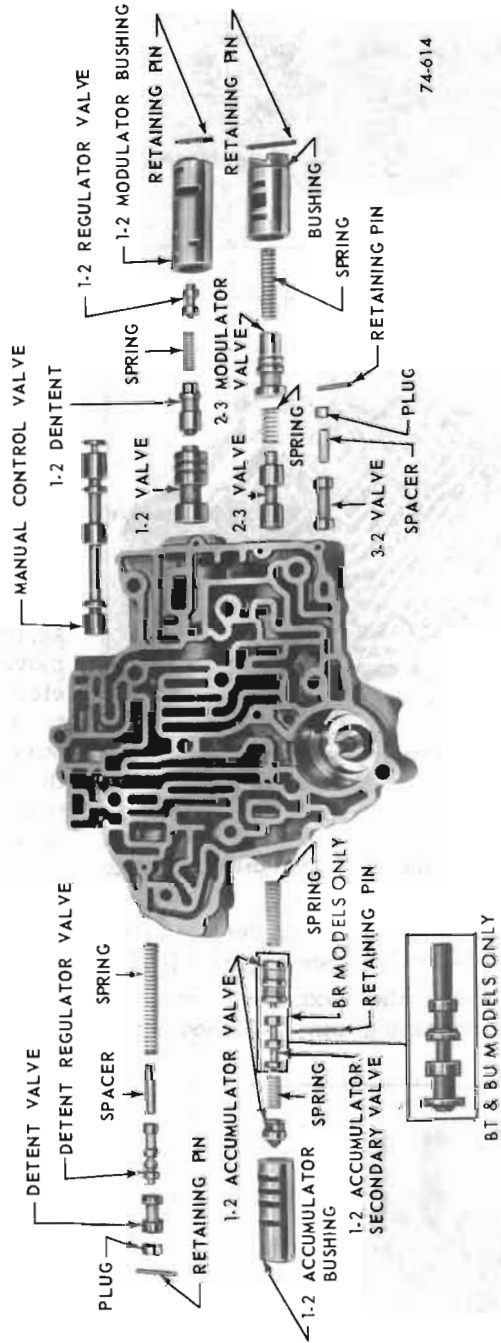

Figure 74-614
valve, and 1-2 regulator spring. See Figure 74-614.
6. Remove the 1-2 detent valve and 1-2 valve. See Figure 74-614.
bushing and 2-3 modulator valve spring, valve, and 2-3 intermediate spring. See Figure 74-614.
8. From the next bore remove the retaining roll pin, bore plug, spacer and 3-2 valve. See Figure 74-614.
9. At the other end of the assembly, top bore, remove the retaining pin and bore plug. See Figure 74-614.
10. Remove the detent valve, detent regulator valve, spring and spacer. See Figure 74-614.
11. In the next bore, check the operation of the 1-2 accumulator valve train by compressing the valve against the springs. See Figure 74-614.
3. If the 1-2 accumulator valve train was removed, install the 1-2 primary spring in the 1-2 primary valve into bore using a retaining pin as a retractor to hold the spring and valve in its operating position until bushing and 1-2 accumulator valve and spring is installed. See Figure 74-614.
4. Install the 1-2 accumulator secondary valve (wide land first) into the 1-2 accumulator bushing. See Figure 74-614.
7. Install the 1-2 accumulator valve, secondary spring and 1-2 accumulator plug into the bushing. See Figure 74-614.
13. In the lower right hand bore, install the 3-2 valve. See Figure 74-614.
14. Install the spacer, bore plug (hole out) and retaining pin. See Figure 74-614.
15. In the next bore up, install the 2-3 valve, stem end out, and 3-2 intermediate spring. See Figure 74-614.
16. Install the 2-3 modulator valve into the bushing and install both parts into the valve bore. See Figure 74-614.
17. Install the 2-3 valve spring, and install the retaining pin. See Figure 74-614.
18. In the next bore, install the 1-2 valve, stem end out. See Figure 74-614.
19. Install the 1-2 regulator valve, spring and detent valve, into the bushing, aligning spring in bore of detent valve, and install parts into the valve bore. See Figure 74-614.
20. Compress the bushing against the spring and install the retaining pin. See Figure 74-614.
21. Install the manual valve with detent pin groove to the right. See Figure 74-614.